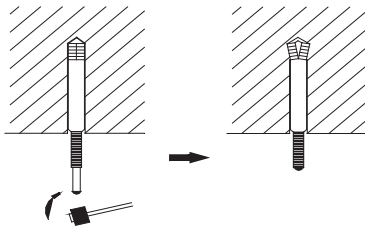

Fig.3
- 1) Insert the M10 expansion bolt into the hole, and then knock the nail into the bolt. Refer to the Outline Dimension Drawings of the Indoor Unit for the distance between holes and see Fig.3 for the installation of the expansion bolt.